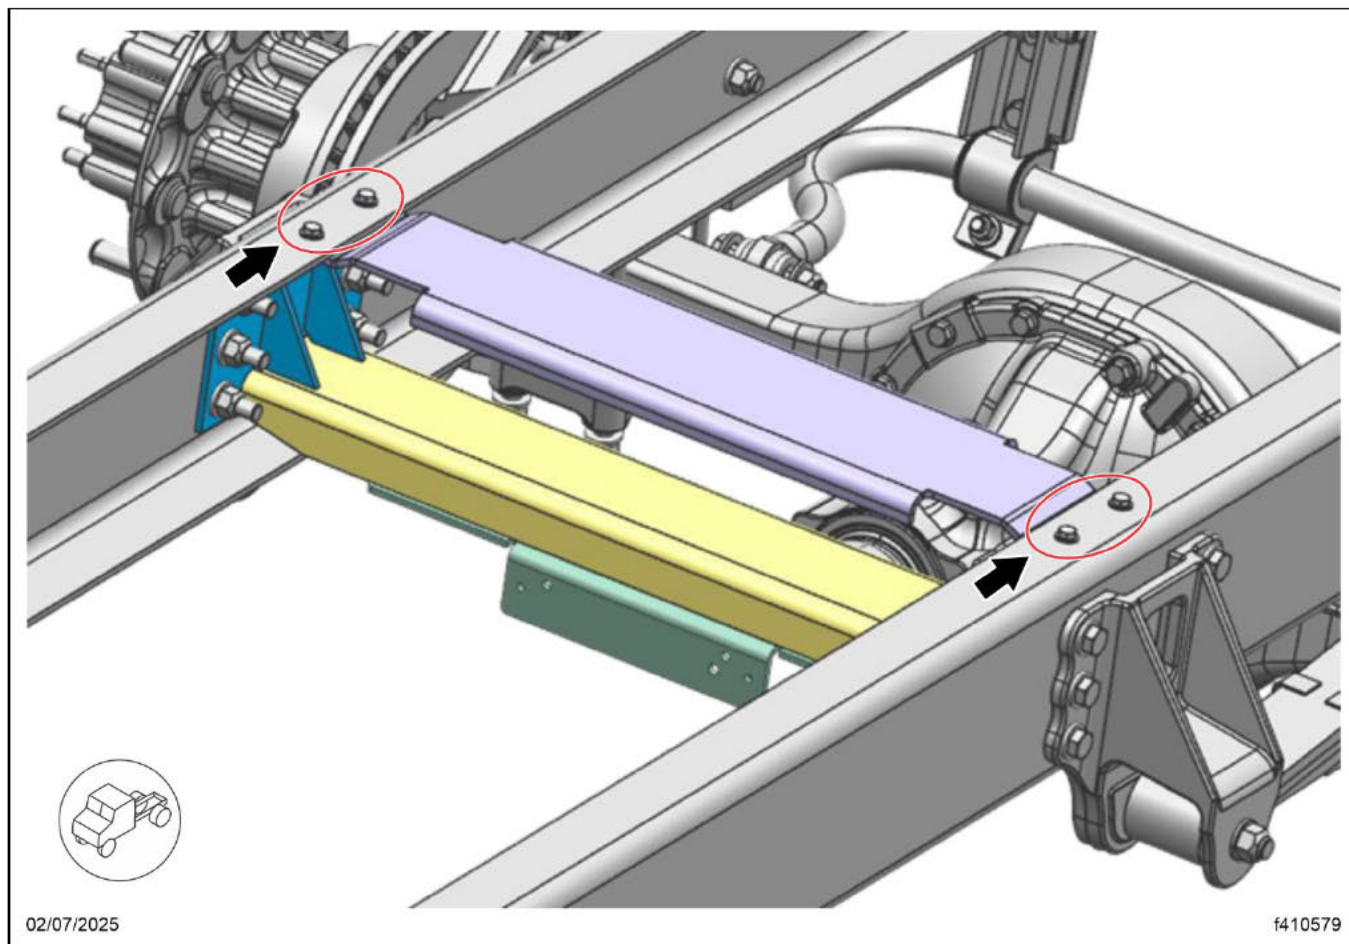

Fig. 1, Installing the One-Inch Bolts in the Flange Holes
8. Install the one-inch bolt (23-11748-125) with the bolt head on the underside of the rail flange and the nut (23-13833-206) on top of the rail along with two washers (23-09114-002)—one under the nut and one under the bolt head—in the four flange holes previously used to mount the upper crossmember piece. Tighten the fasteners 26 lbf·ft (35 N·m). See Fig. 1.